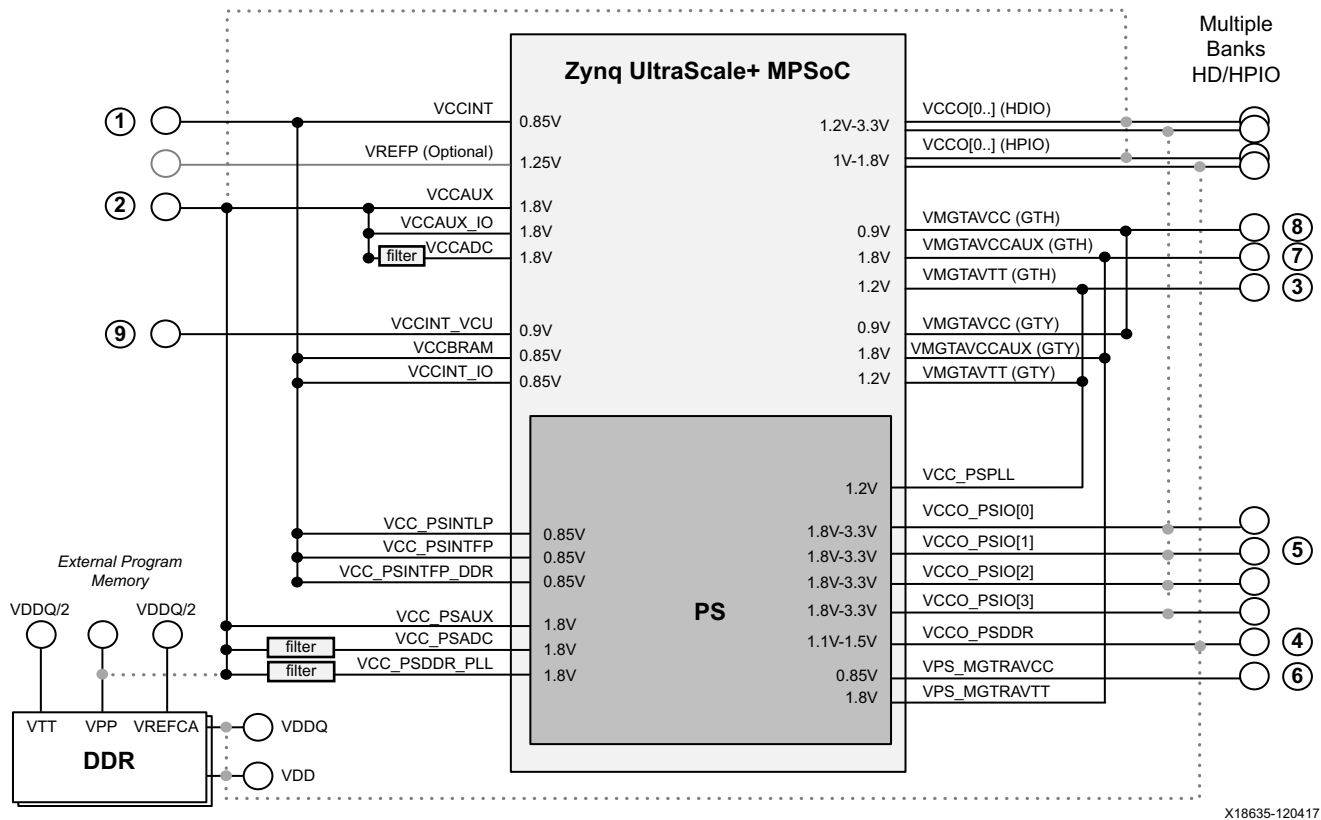

Figure 1-5: Always On: Cost-Optimized Power Rail Consolidation
In always on, cost-optimized applications, where standard -1 or -2 speed grade devices are used, a significant amount of power rail consolidation is possible, assuming the decoupling and filtering requirements on the individual supplies as outlined in this document are met. Table 1-13 broadly defines the power rail consolidation that is possible for this use case. For further clarity, Figure 1-5 shows the possible power rail consolidation graphically.
**Note:** In Figure 1-5, the dashed lines are dependent on the user configuration.